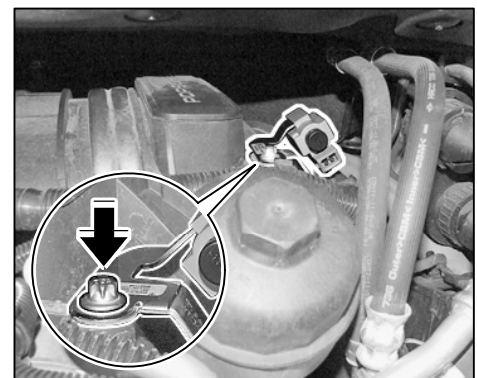

Figure 9
- 3.2 Unscrew external Torx screw ⇒ *Figure 9-arrow-* on the intake bridge at the front right. Secure change-over valve holder to the intake-air distributor using an external Torx screw.